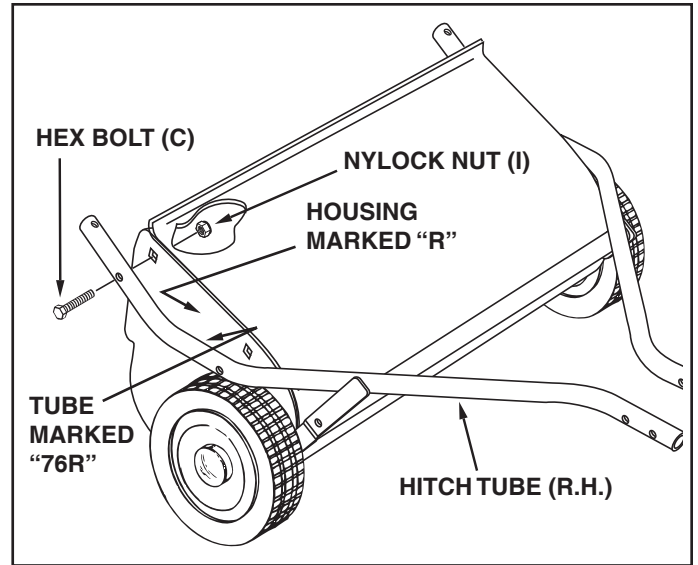

FIGURE 5
STEP 6: (SEE FIGURE 5)
- Hold the right hitch tube against the right side of the sweeper so that the "76R" on the tube faces **toward** the sweeper. Attach the hitch tube using one hex bolt (C) and nylock nut (I). **Do not tighten yet.**